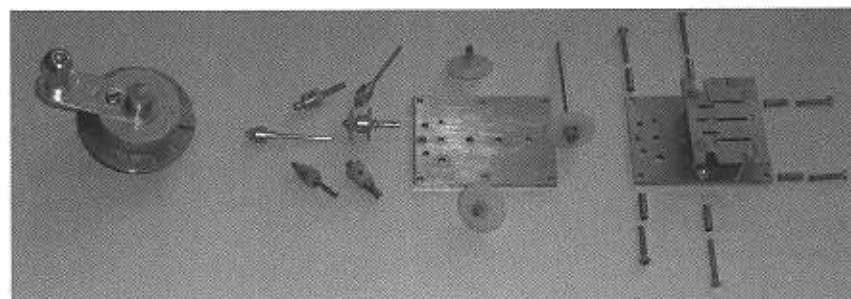

Fig 4. Component Parts
of gears show Pitch Circles. The fully assembled dividing machine is presented in figures 1-3. Component parts can be seen in figure 4. Gears, axles and spacers are held between two brass plates, the Upper Plate (UP) is the input side, whilst the Lower Plate (LP) leads to the output axle.